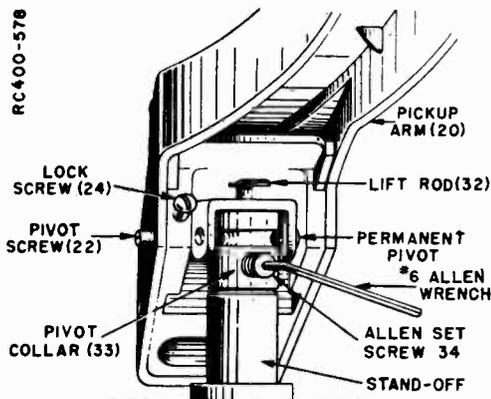

Figure 5. Pickup Arm Mounting Detail.
1. Insert the 45 RPM centerpost (2); set the speed change knob (19) to the "45" position; move the reject knob (42) to the "Rej" position and then rotate the turntable (clockwise) by hand JUST to the point where the pickup arm stops moving in toward the centerpost and starts moving downward. DO NOT ROTATE THE TURNTABLE BEYOND THIS POINT.
2. Insert a #6 Allen wrench into the Allen set screw (34) on the pivot collar (33) as shown in Figure 5. Do NOT loosen the Allen set screw.
### REMOVING THE PICKUP ARM (See Figure 5)